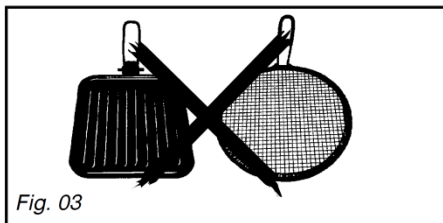

Fig. 03
– Do not use heat distributors, toasters (Fig. 03), steel meat broilers or stewpots that have feet resting on or touching the glass top